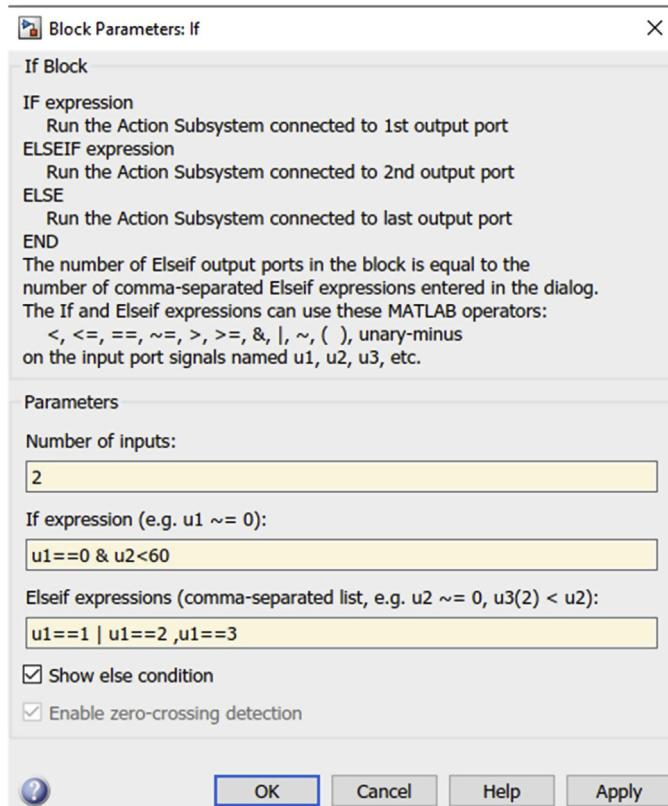

Figure 10.20 Parameter settings for If block.
6. Connect the pitch_brake, parking_brake, and generator_trip outputs of the stateflow to terminators. Then add an If block. Double click on the If block and set the Parameter settings as shown in Fig. 10.20. In this case, u1 is the turbine_state output of the stateflow logic whereas u2 is the simulation time. There will be four cases for this if condition: